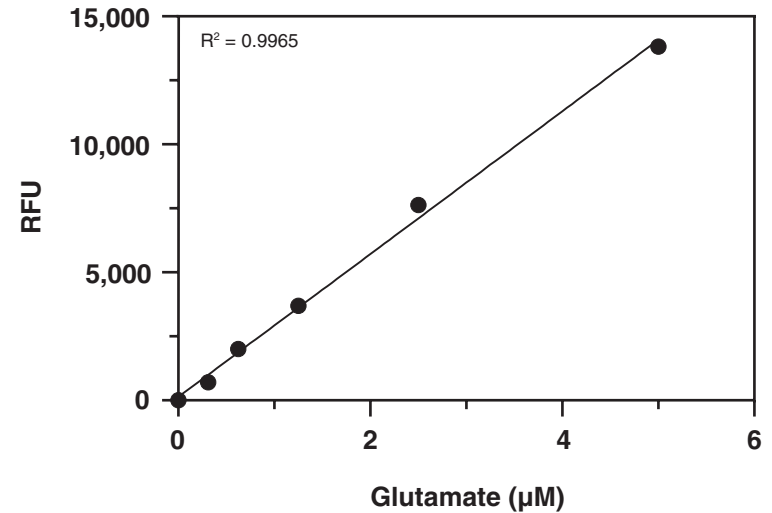

Figure 5. Glutamate standard curve for the fluorometric format
2. Subtract the average fluorescence or absorbance value of standard F from itself and all other standards. This is the corrected signal (CS).
3. Plot the CS values (from step 2 above) of each standard as a function of the concentration of glutamate. See Figures 5 and 6, on pages 21 and 22, for typical standard curves.